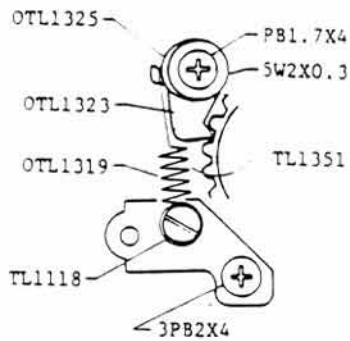

Fig. 1
2. Position the tip of OTL 1323 Ratchet pawl and the winding gear of TL1313K2 Winding base plate assembly by turning OTL 1325 Eccentric collar as shown in Fig. 1.